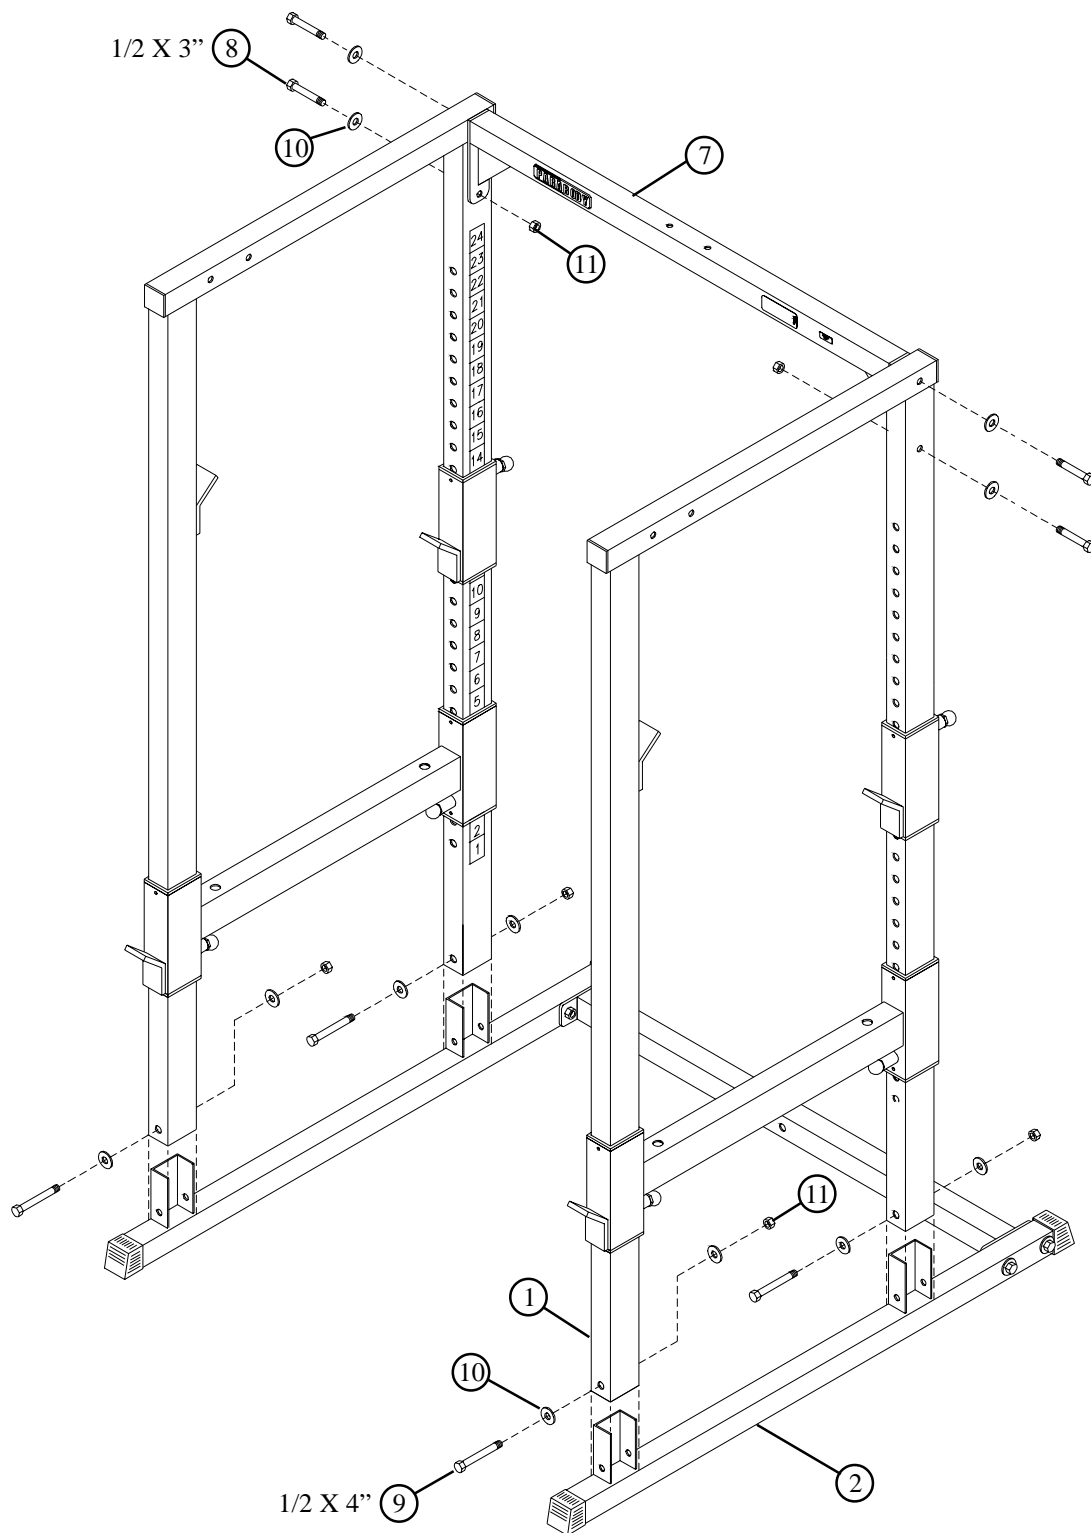

FIGURE 4
- **LOOSELY** assemble each UPRIGHT (1) to the UPRIGHT BASE (2) using four 1/2 X 4" BOLTS (9), eight 1/2" WASHERS (10), and four 1/2" LOCK NUTS (11). See FIGURE 4.
- **LOOSELY** assemble the UPPER CONNECTOR (7) using four 1/2 X 3" BOLTS (8), four 1/2" WASHERS (10), and two 1/2" LOCK NUTS (11). See FIGURE 4.